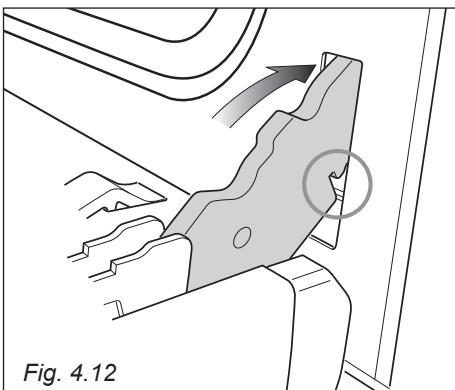

Fig. 4.12
- Insert the hinge tongues into the slots, making sure that the groove drops into place as shown in the fig. 4.12.